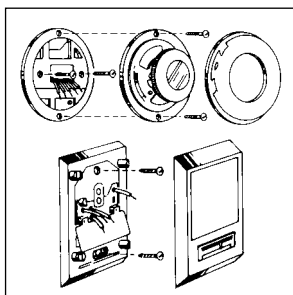

Figure 1
2. Remove cover from old thermostat to expose wires (Figure 1).